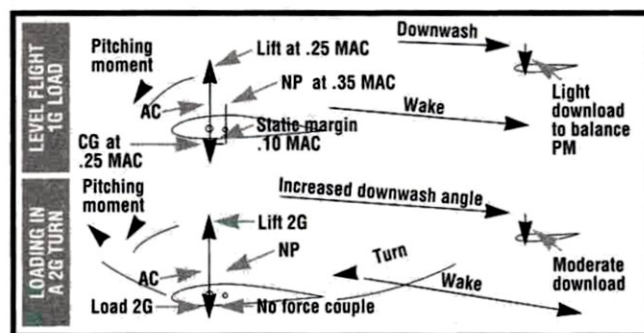

Figure 4. Loading with CG at .25 MAC in a 2G turn.
■ **CG on the aerodynamic center** (Figure 4). The wing's lift, at its aerodynamic center, is vertically in line with the CG. In turns, CF neither adds